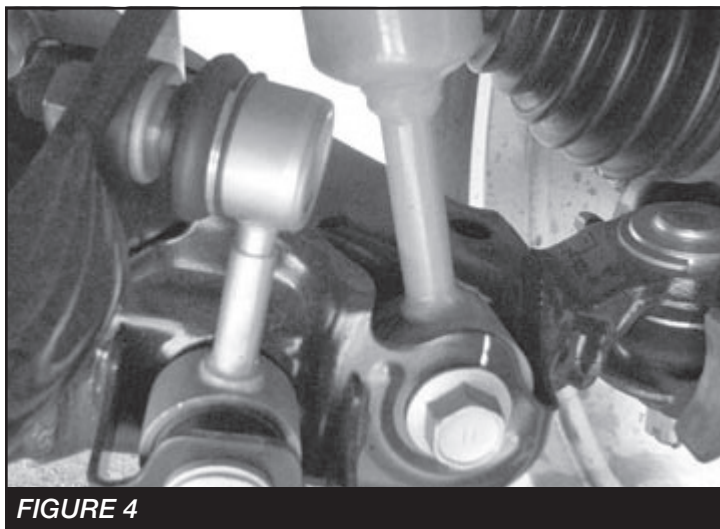

FIGURE 4
6. Locate shock mount in lower control arm. **SEE FIGURE 4**